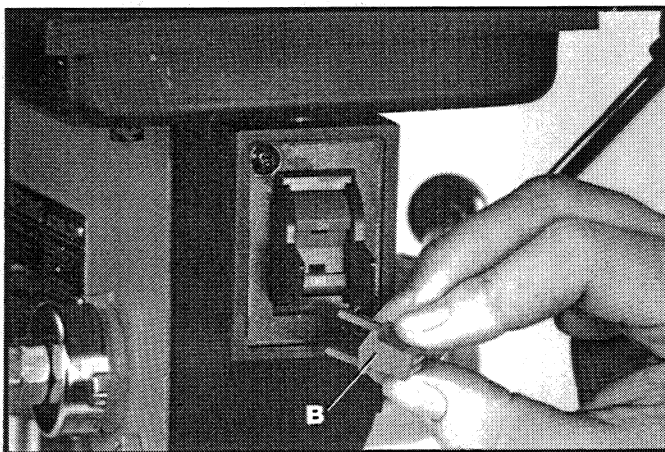

Fig. 28
We suggest that when the drill press is not in use, the switch be locked in the "OFF" position. This can be done by grasping the switch toggle (B) and pulling it out of the switch, as shown in Fig. 28. With the switch toggle (B) removed, the switch will not operate. However, should the switch toggle be removed while the drill press is operating, the switch can be turned "OFF" once, but cannot be restarted without inserting the switch toggle (B).